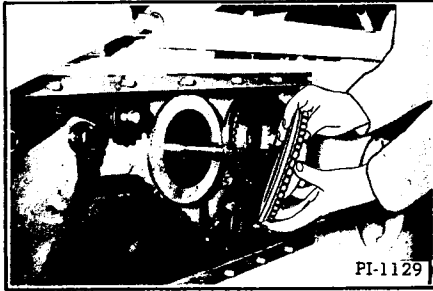

Fig. 16 Removing Outside Clutch Plate
6. Remove the outside clutch plate and lining (Figure 16).